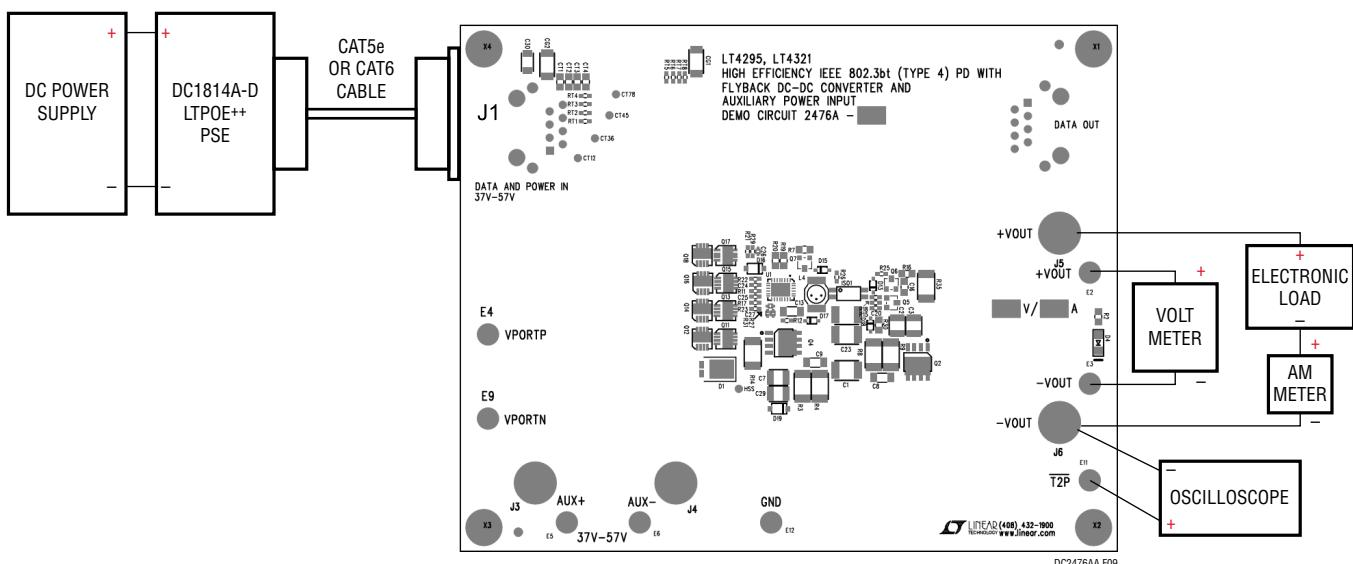

Figure 8. Setup Diagram for PoE Input
2. Place and connect test equipment (voltmeter, ammeter, oscilloscope and electronic load) as shown in Figure 8.
8. Verify T2P response with an oscilloscope as shown in Figure 8. The T2P response to the type of PSE connected to the DC2476A-A is provided in Table 1.